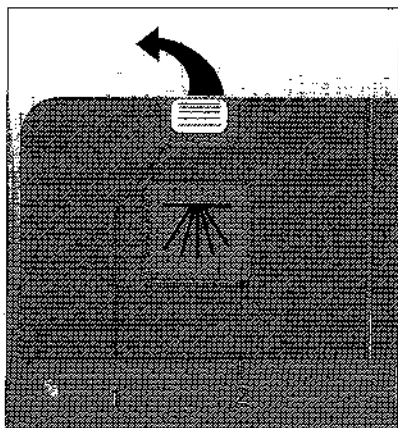

Fig. 10
- ☐ Press the lever forward (Fig. 10/1). The lid springs open.
In case of heavily soiled dishes, it is possible to add extra detergent to the tray on top of the dispenser lid (Fig. 10/2). Fill until level. The extra detergent will be added during the prewash.